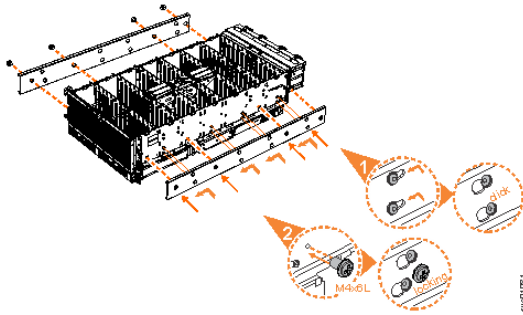

Figure 48. Attaching the inner rail section to the enclosure
5. Install the inner section of the rail onto each side of the expansion enclosure, as shown in Figure 48 on page 83.